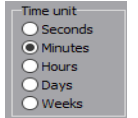
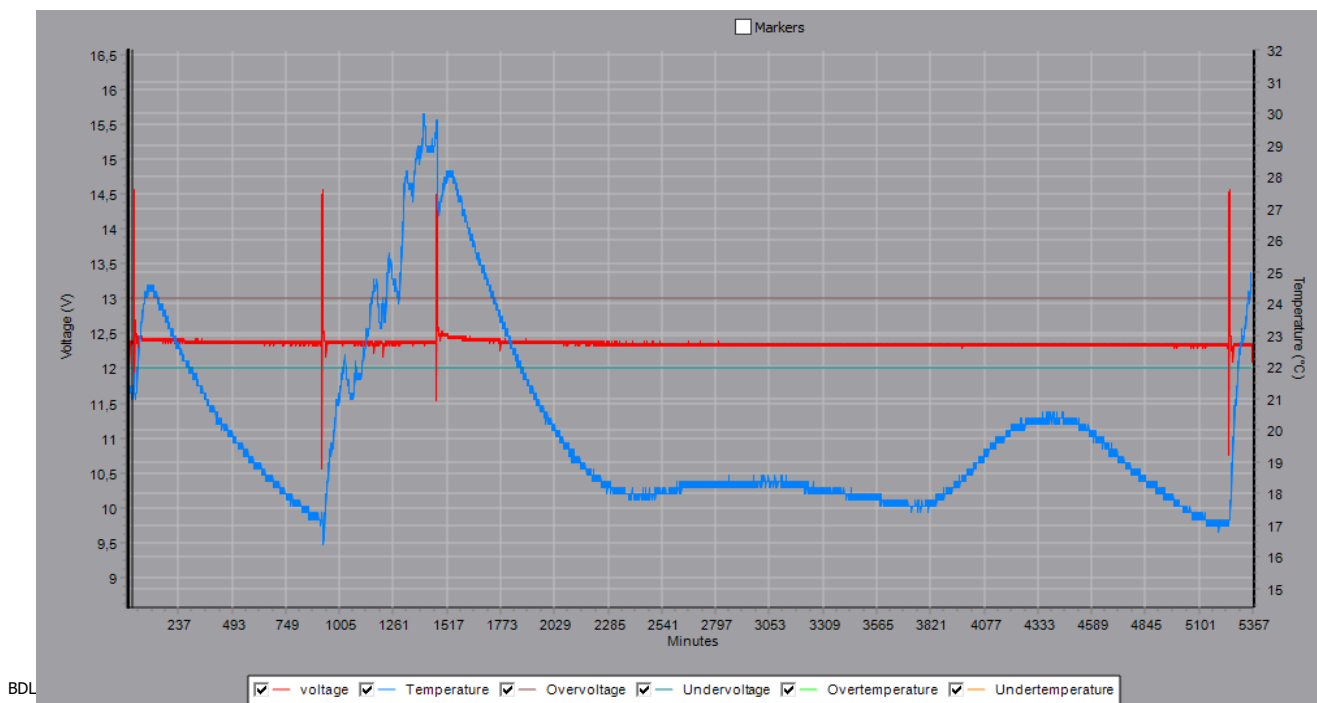
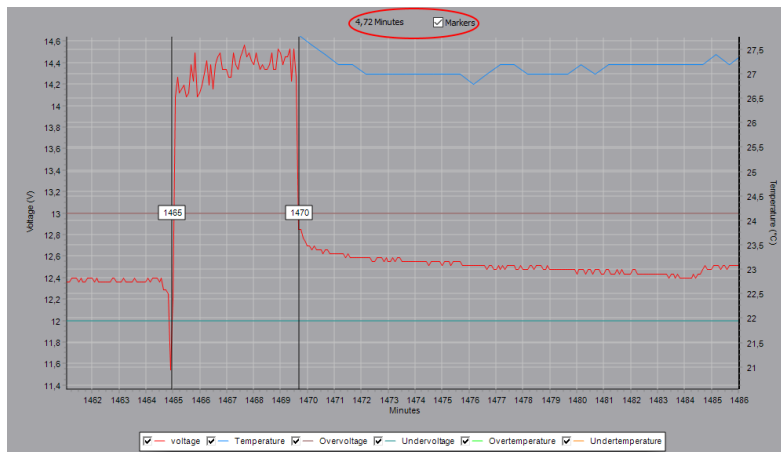

Figure 6: time unit
Figure 10: Graph
Figure 18: Markers
The *Time unit panel* ensures that the user can change units around the time axis of the graph. The moments of the calamities will also be reported in the overview of calamities using this time unit. This setting is also used in the overview of calamities (Figure 6).
Figure 10 shows a graph example. The red line with the related left axis shows the voltage within this context. The blue line with the related right axis shows the temperature. The other lines show the set limit values. The time is indicated through the horizontal axis. The unit that is displayed here can be adjusted by using the 'Time unit panel' (Figure 6). The user can select which lines must be displayed in the graph below the graph. *Note! The graph may have a delayed response if many data items have been collected.*
Step 8. The user can determine how long a specific period has lasted in the graph by using the markers that can be found to the left and right of the graph. The markers will be activated if the user selects the markers at the top in the graph. When the markers are no longer required, the user can deactivate them by removing the check mark (by deselection). The system will indicate how long the period is between two markers at the top of the graph (Figure 18) by dragging the markers. The time unit is determined through the time unit panel (Figure 6).